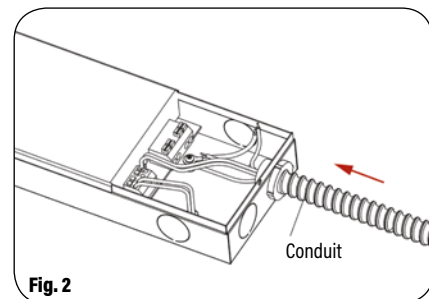

Fig. 2
2. Connect the conduit to the driver box. (Fig. 2)